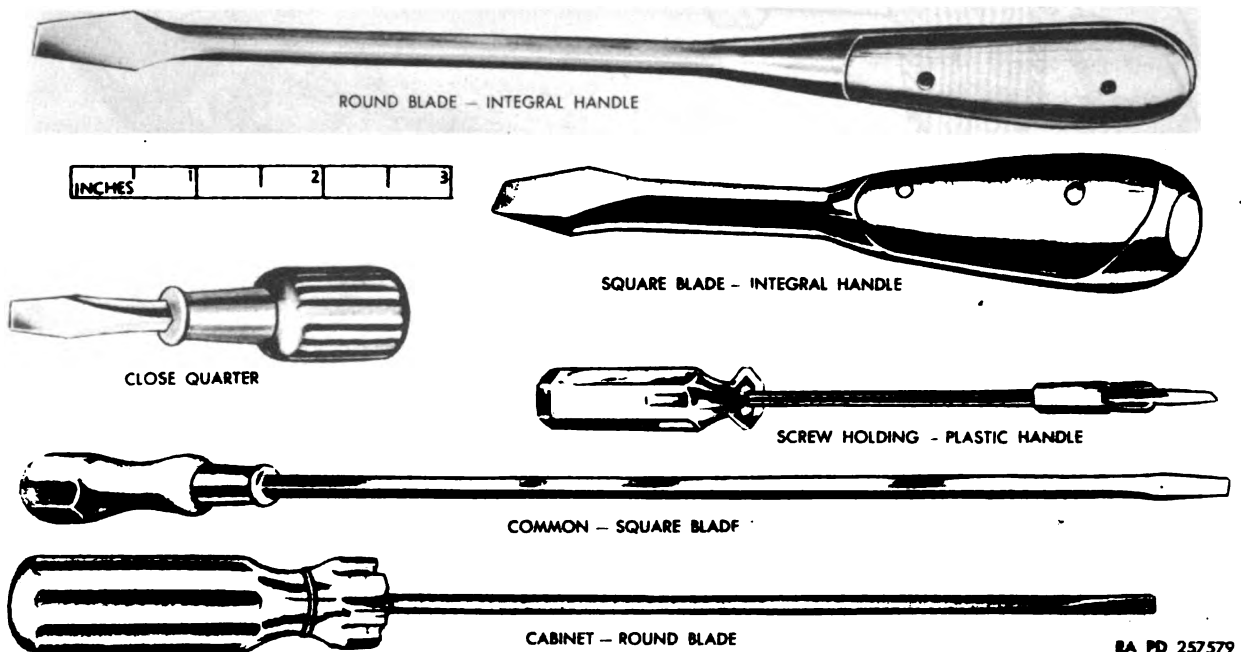

Figure 109. Common, flat-tip screwdrivers.
a. *Common Screwdriver.* The common screwdriver (fig. 109) has a round steel blade
k. Radio and Pocket Screwdrivers. A radio screwdriver (not illustrated) has a round blade that is 1½ inches long. The tip is ⅛ inch wide and the overall length is 3¼ inches. Its use is restricted to very small screws generally, used in the construction of radio chassis. The pocket screwdriver (not illustrated) is also small. It has a square blade that is 1¾ inches long, a ¼-inch wide tip, and an overall length of 4 inches. It is similar to the close quarter screwdriver shown in figure 109.